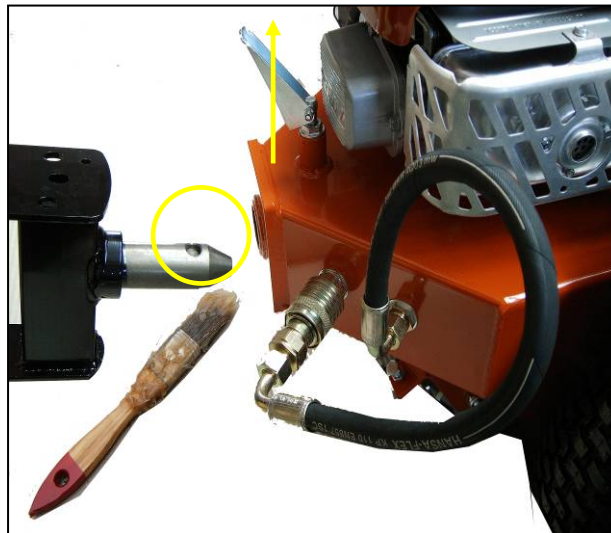

Fig 8.1
- For receiving an attachment, both male and female parts of the receiver (on the machine and the attachment) should be free from dirt and well greased (see fig 8.1)